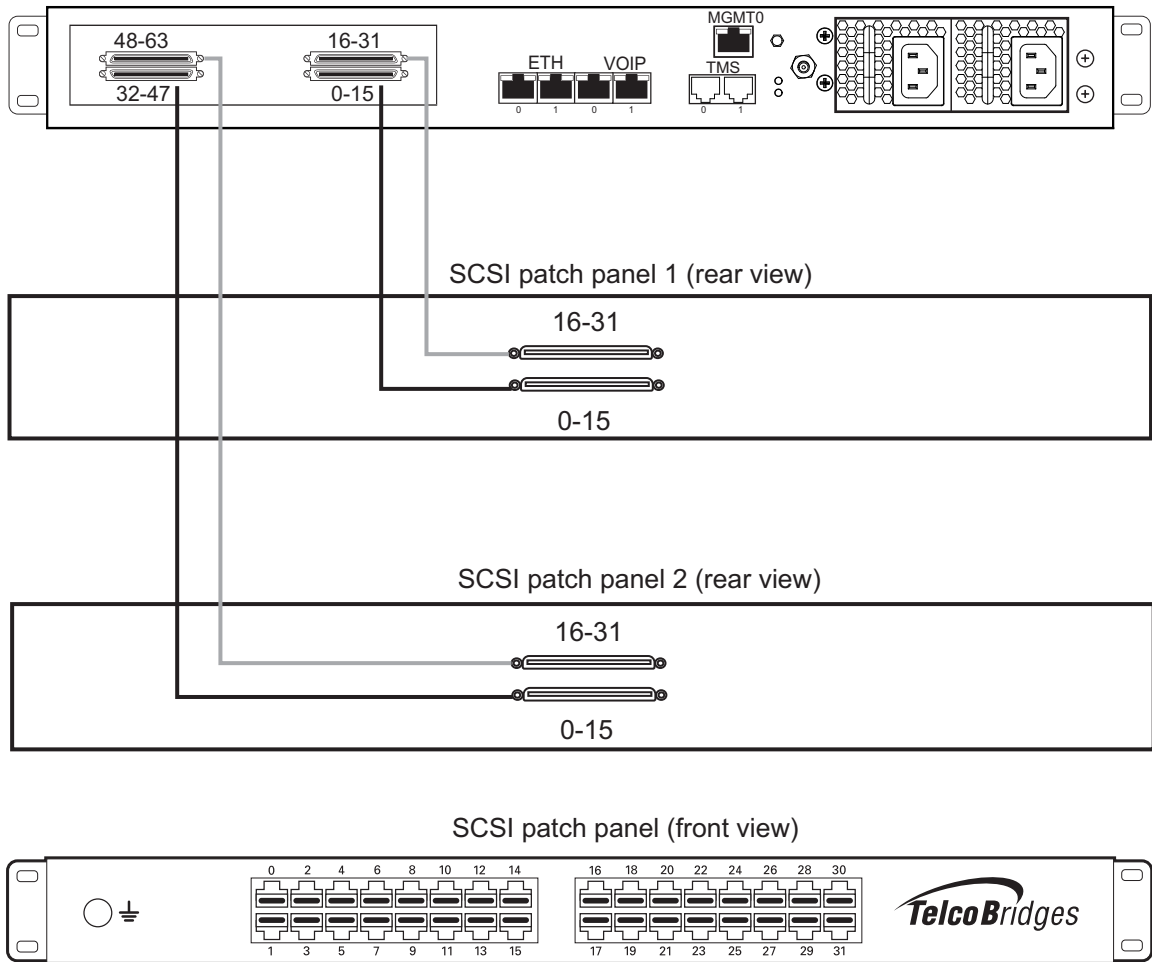

Figure 2.4 3200-TE with SCSI connectors
1. Start with SCSI ports 0-15 located at the bottom right as shown in Figure 2.4 on page 19. Connect one SCSI cable between this port and SCSI patch panel number 1, ports 0-15. Connect SCSI ports 16-31 to patch panel number 1, ports 16-31.